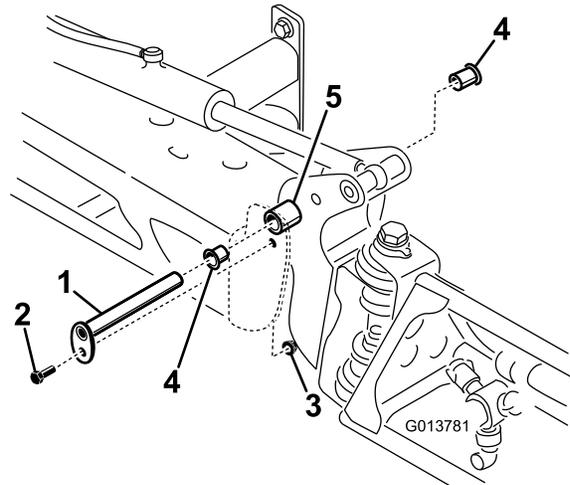

Figure 66
- With the weight of the boom supported, remove the bolt and nut securing the pivot pin to the boom assembly (Figure 66).
- Remove the pivot pin (Figure 66).
- Remove and inspect the nylon bushings from the front and back sides of the pivot bracket (Figure 66).
- Install the boom and pivot bracket assembly into the center frame, aligning the openings (Figure 66).